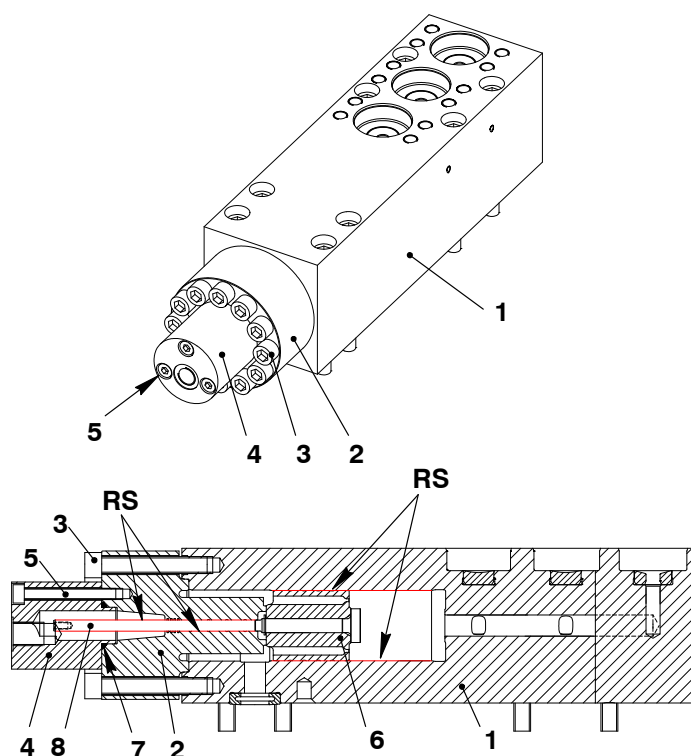

Fig. 5
- 1) Clean all parts and running surfaces (RS, Fig. 5).
- 2) Apply lubricating oil to all running surfaces (RS).
- 3) Put the piston rod (8) together with the piston (6) into to flange (2). Make sure that the piston rod moves easily.
- 4) Put the piston (6) together with the flange (2) into the valve block (1).
- 5) Apply Never Seez NSBT to the threads and surfaces of the twelve bolts (3).
- 6) Tighten equally the twelve bolts (3) with your hand. Make sure that the twelve bolts turn easily.
- 7) Torque symmetrically the twelve bolts (3) to 60 Nm.
- 8) Put a new O-ring (7) on the cover (4).
- 9) Attach the cover (4) to the flange (2) with the three bolts (5).